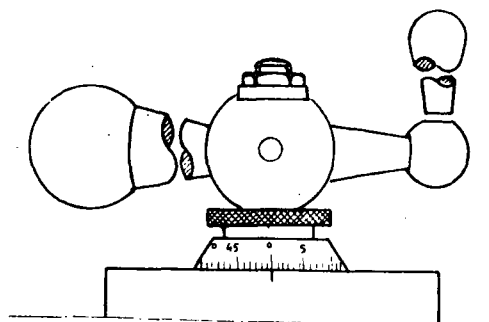

Fig. 10
- c) Take reference, turn the feed screw dial and set it at zero (Fig. 10).